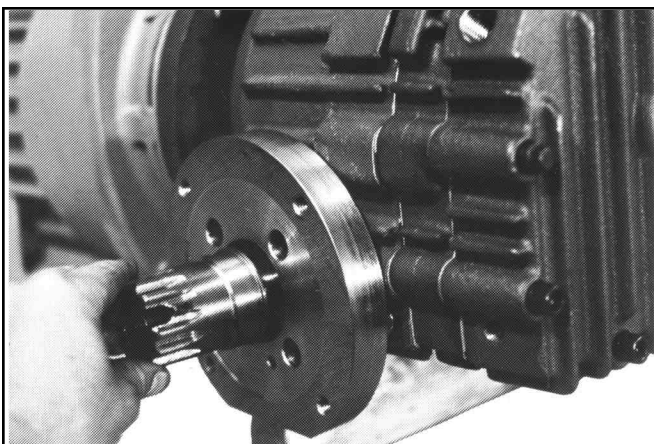

Figure 9.9 - Installing Hub (#302) Onto Worm Shaft
3. Install Gasket (#46) onto the brake side of Main Housing. Bolt Adapter (#901) to Main Housing with (4) Washers (#174) and (4) Screws (#145).
4. Insert Collet (#306), Screw (#351) along with the Seal Washer (#334) into the Hub (#302). Place Hub Subassembly onto the Worm Shaft and tighten Screw (#351) to a snug fit. (See Figure 9.9)